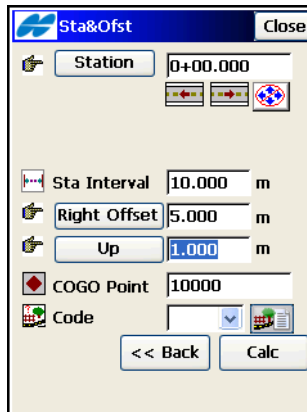

Figure 10-18. Station & Offsets
3. On the *Sta&Ofst* screen (Figure 10-18), if needed, set the starting station, station interval, offsets with respect to the line at the station, and the starting name for the points calculated.
2. On the *Sta&Ofst* screen (Figure 10-18 on page 10-16), if needed, set the starting station, station interval, offsets with respect to the curve at the station, and the starting name for the points calculated.
3. On the *Sta&Ofst* screen (Figure 10-18 on page 10-16), if needed, set the starting station, station interval, offsets with respect to the road at the station, and the starting name for the points calculated.